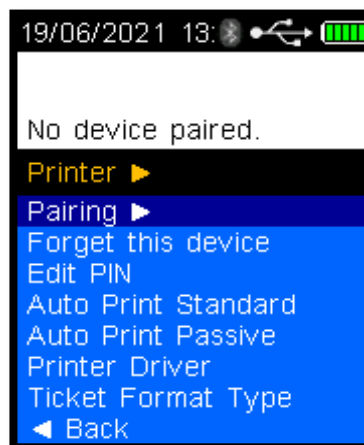

Figure 83 Printer Menu
- Press the test key, the printer screen will be displayed (Refer Figure 83)